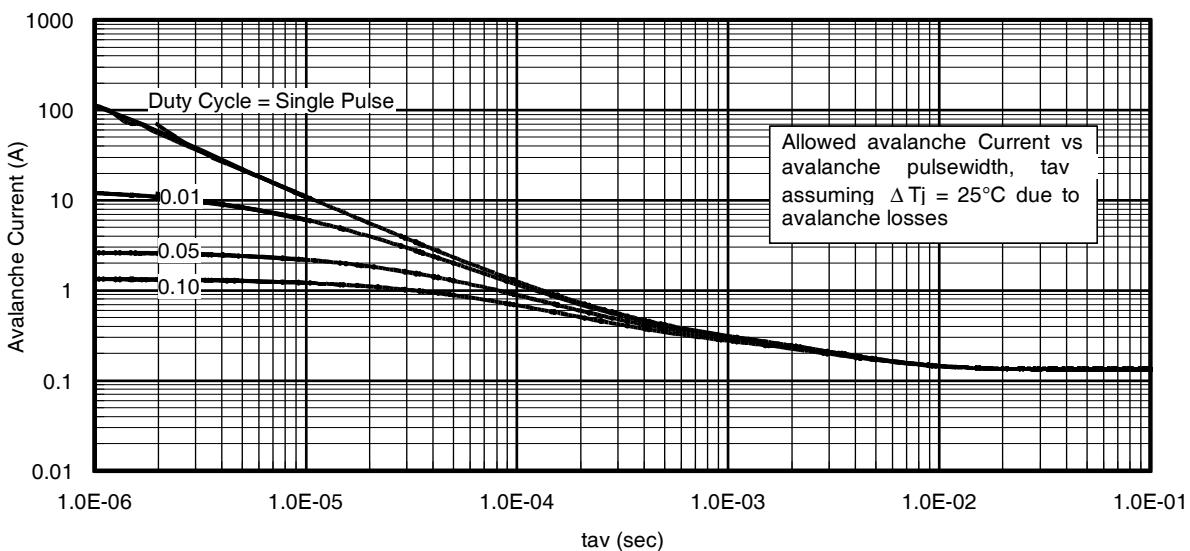

Fig 14. Typical Avalanche Current Vs. Pulsewidth
- ① Repetitive rating; pulse width limited by max. junction temperature.
② Starting $T_J = 25^\circ\text{C}$, $L = 1.62\text{mH}$, $R_G = 25\Omega$, $I_{\text{AS}} = 11\text{A}$.
③ Pulse width $\leq 400\mu\text{s}$; duty cycle $\leq 2\%$.
④ R_θ is measured at T_J of approximately 90°C .
⑤ Limited by T_{jmax} . See Figs. 14, 15, 17a, 17b for repetitive avalanche information.
Notes on Repetitive Avalanche Curves , Figures 14, 15:
7. ΔT = Allowable rise in junction temperature, not to exceed $T_{j\max}$ (assumed as 25°C in Figure 14, 15).